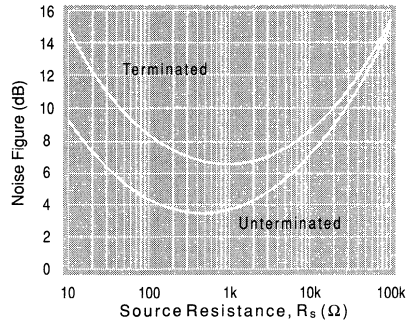

Figure 6: Noise Figure vs. Source Resistance
Noise Figure (NF) can be defined as the ratio of the total output noise power (e_{no}) to that portion of output noise power caused by the source resistance ($e_t * A_v$) and is so expressed in Equation 3. This definition assumes an unterminated source and that the parallel combination of R_i and R_g is chosen to equal to R_s for bias current cancellation. The curve labeled "Unterminated" in Figure 6 is a plot of NF vs. R_s and for a 50Ω source the CLC425's NF is 5.26dB.